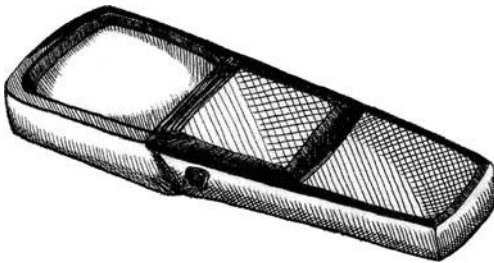

Figure D.11 Lighted magnifier.
- Lighted magnifier (see Figure D.11)